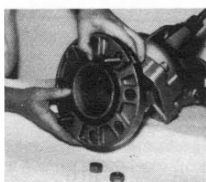

Fig. 3
- 3.3 Press the gasket firmly into the flange cavity ensuring that the sealing lip is pointed outward. When in place, the gasket should not extend beyond the end of the pipe (Fig. 3)